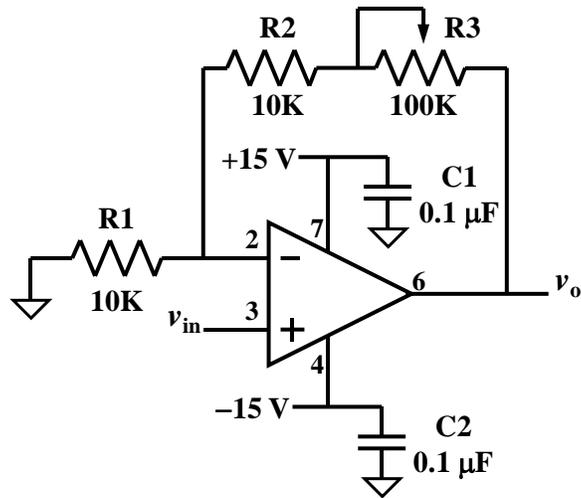

Fig. 3. Second op-amp circuit
- Calculate three numerical gains for the circuit 2 (Fig. 3) for  $R_3 = 30\text{ k}\Omega$ ,  $100\text{ k}\Omega$ , and  $0\ \Omega$
3. Consider the second circuit in Fig. 3.